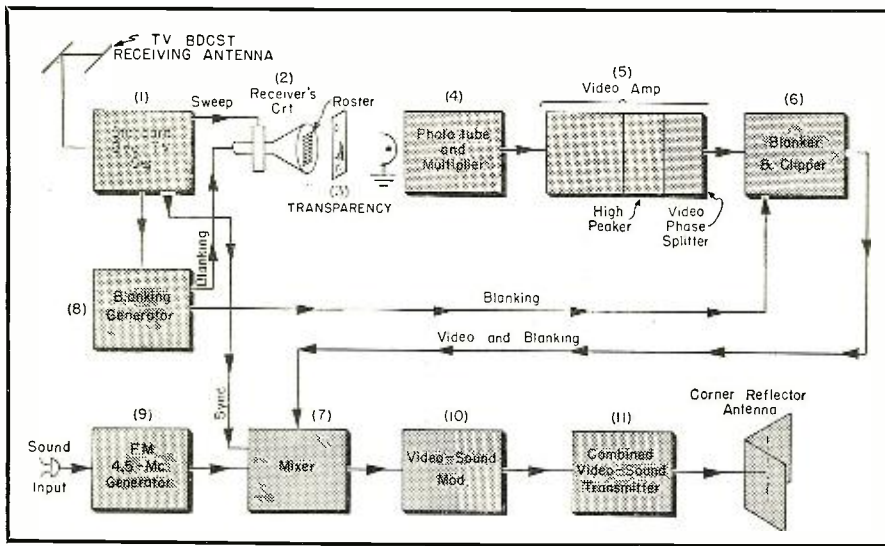
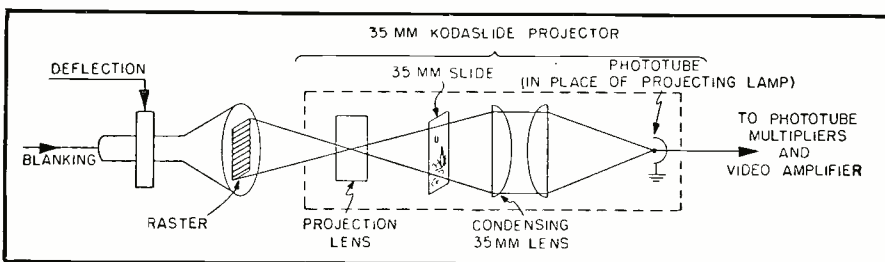

Fig. 2. Block diagram of transmission system showing functions of the units.
Fig. 3. Method for using cathode-ray tube as light source for 35mm transparencies.
there will be one small flying spot after another traversing the scene, each illuminating a line of the scene, and each line successively displaced, so that at the end of one revolution of the disc the entire scene has been covered. As the spot of light covers each small portion of the scene, a phototube picks up the light derived from this particular portion of the scene. The phototube current is then a video signal suitable for transmission. (At the receiver the corresponding signal is amplified and drives a source of light which can be modulated in intensity. This light is then viewed through a similar receiving disc rotating in synchronism with the transmitting disc, allowing the original scene to be observed.) This old principle is applied electronically in the modern flying-spot scanner. Instead of using the rotating disc with holes, a raster is generated on the screen of the cathode-ray tube shown as unit (2) in Fig. 2. Since the raster is produced by the motion of one dot behind the transparency, the variations of light value from point to point of the transparency are picked up by the phototube.
In the present system the transmitter uses an ordinary TV receiver altered so as to separate the sync from the received television signal from any local TV station. This sync is then used to generate the interlaced standard RMA sweeps. A block diagram of the sending end of the system is given in Fig. 2. Unit (1) is the broadcast TV set, which is standard and whose
The lead to the video amplifier from the grid of the television set's cathode-ray tube (2) is disconnected in the set and is instead connected to the blanking generator (8). (For this source of the flying-spot illumination, practically any CRT can be used, including surplus P7-phosphor radar types.) In addition, the sync derived from (1) is to be used later for transmission purposes in mixer (7). The light from the raster of (2) is then passed through a transparency (3) (which is the picture being transmitted). This can be held in a slide projector holder or put directly on the face of the cathode-ray tube (2). If a slide projector is used the phototube is substituted for the slide projector light source, as shown in Fig. 3. Returning to Fig. 2, the light passing through the transparency is picked up by a phototube (4), amplified by a video amplifier (5), passed through a video clipper and blanking inserter (6), and then passed through a sync and sound sub-carrier mixer (7). The output of the mixer is fed to a combined video-sound modulator (10), which modulates a transmitter (11), and this feeds an antenna radiating the picture and sound signals simultaneously.